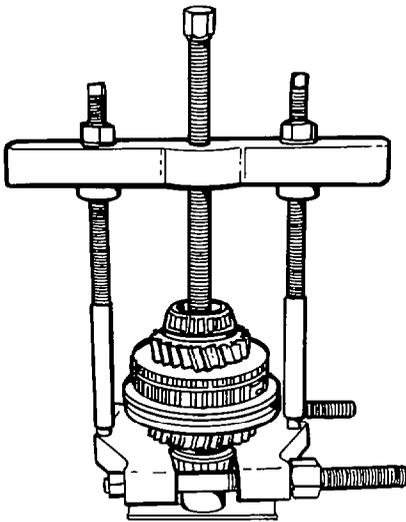

Figure 36 Removing the Input Shaft Gearset
- (1) Use a puller to dismantle the input shaft assembly (see Fig 36); take particular note of the position of components and the sequence of removal for assembly purposes; a general view of the input shaft is shown in Fig 37.